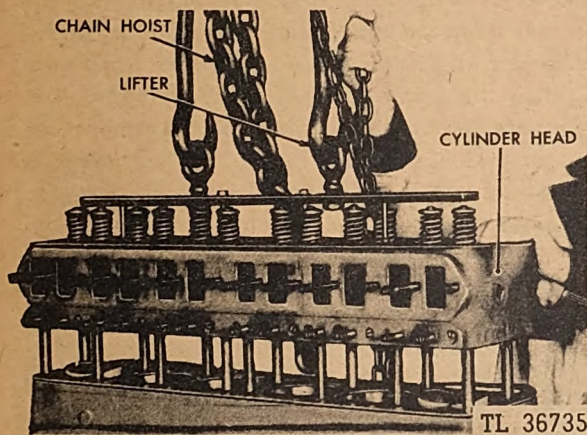

Fig. 83. Removing Cylinder Head
b. *Removing Cylinder Head.* Unscrew the fifteen nuts holding the head to the cylinder block and lift the head from the engine as shown in Figure 83. Discard gasket.